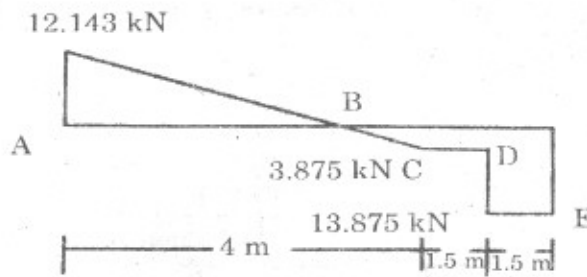

Fig. 4
- (b) Draw the bending moment diagram and loading diagram from given shear force diagram if beam is subjected to a moment at a distance 2 m from A. (Refer Fig. 4). [9]